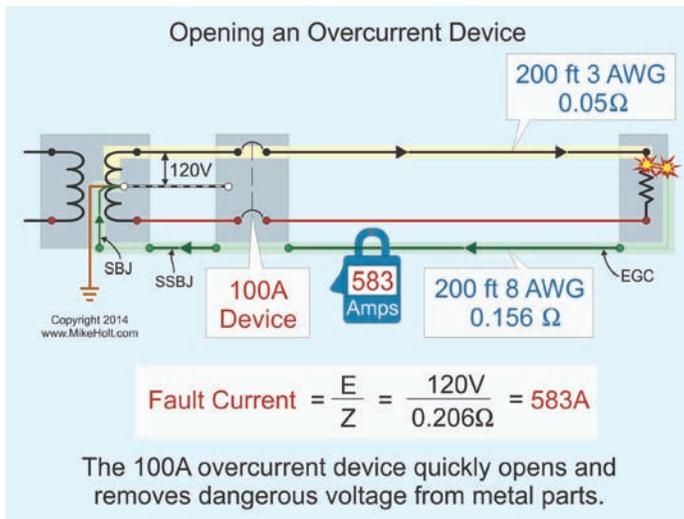

Figure 250–9
- To quickly remove dangerous voltage on metal parts from a ground fault, the effective ground-fault current path must have sufficiently low impedance to the source so that fault current will quickly rise to a level that will open the branch-circuit overcurrent device. Figure 250–9